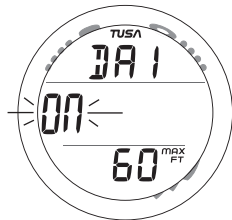

Fig. 111 - SET FREE EDT ALARM
**Set Free DA1**, information includes (Fig. 111) -